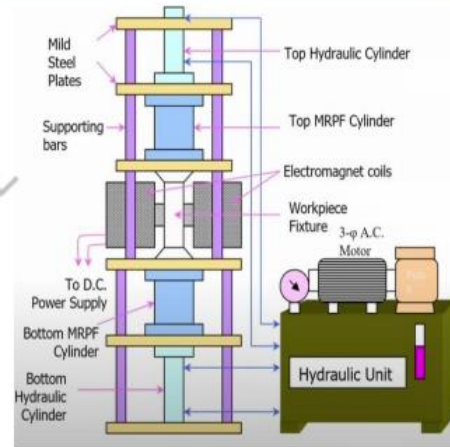

Fig.11. Schematic of magnetorheological abrasive flow finishing experimental setup.
- Fig.11. shows the schematic of a conventional MRAFF setup developed by Jha and Jain.